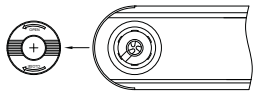

Fig.1
- Screw off the battery cover counterclockwise (Fig.1)